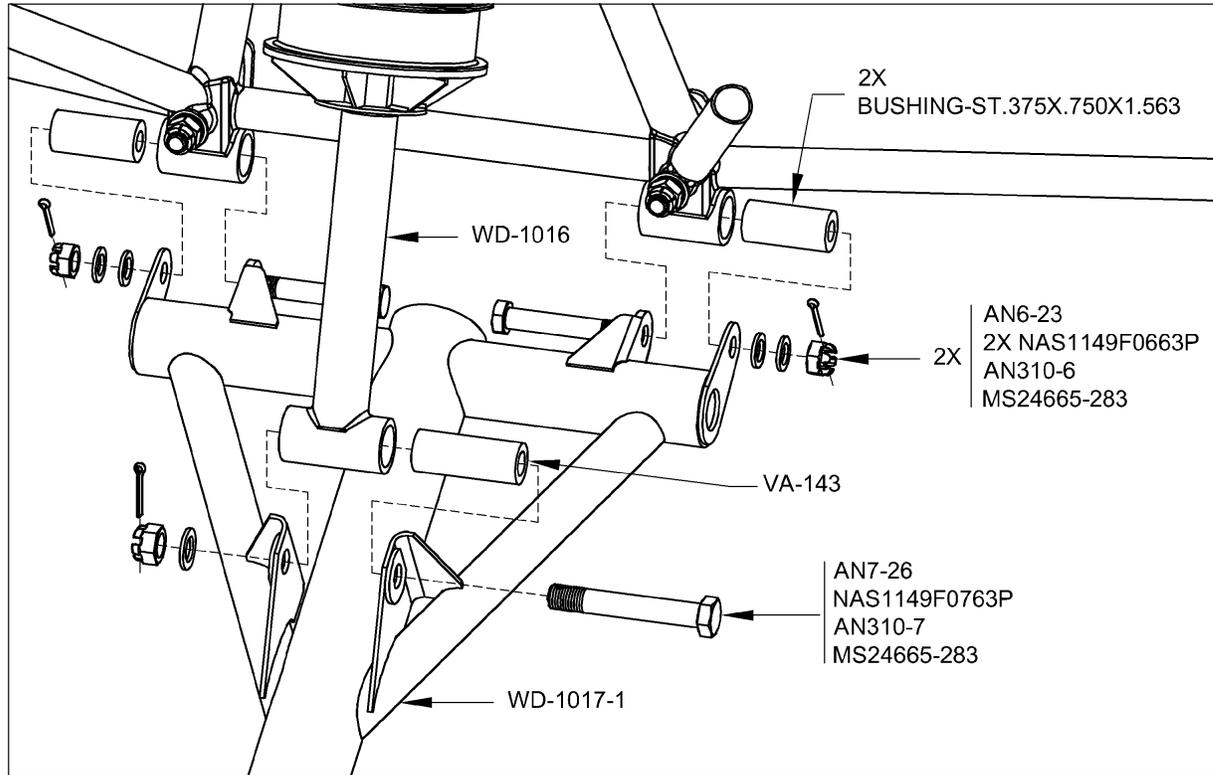

FIGURE 2: NOSE GEAR ATTACHMENT
Step 9: Coat the new bushings with wheel bearing grease, slide them into the engine mount, then attach the WD-1017-1 Nose Gear Leg to the engine mount as shown in Figure 2.
Step 10: Grease the VA-143 Bushing, slide it back into the WD-1016 Nose Gear Link Assembly, then attach the link assembly to the nose gear leg using the original hardware (two of the original NAS1149F0763P washers are no longer used). See Figure 2.